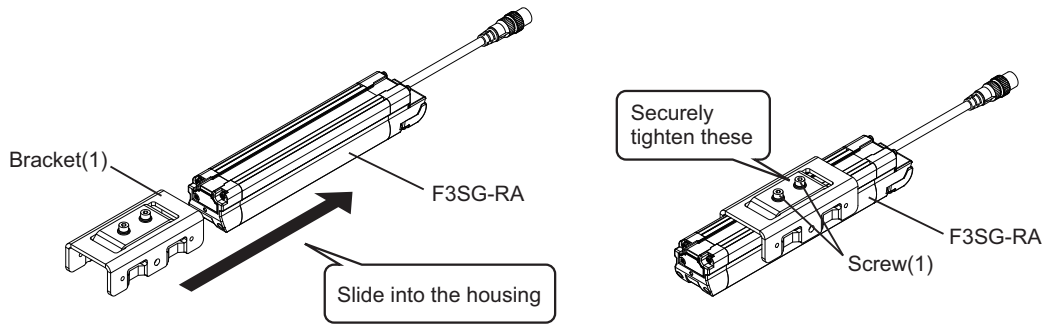

Fig. 2
- Slide the Bracket(1) in the grooves of the F3SG-RA housing. Adjust the Bracket(1) to the mounting position and securely tighten the Screw(1) to fix the Bracket(1) to the housing of the F3SG-RA. The recommended torque to tighten the Screw(1) is 3.0 N•m. (Fig. 2)